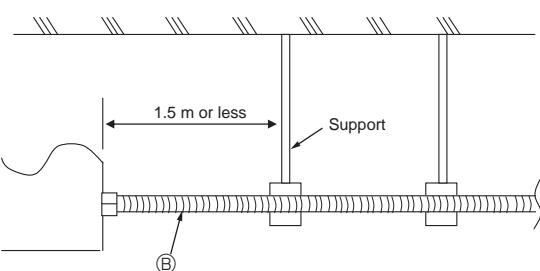

Fig. 8-7
To avoid excessive strain on the branch box, support the wiring conduit (B) with one or more support(s) 1.5 m or less from the branch box. Refer to Fig. 8-7 as an example.